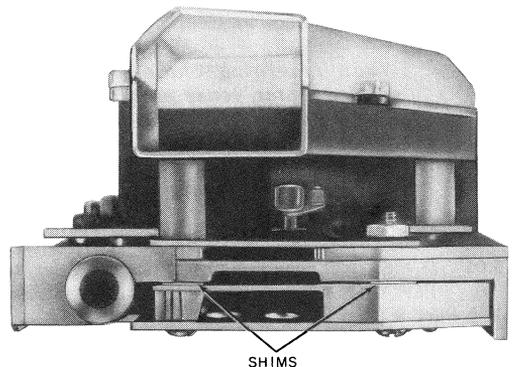

Fig. 40—20A Coin Chute (Manufactured Prior to May, 1978) With Dime Opening Shimmed
- (6) Replace 20A coin chute if dime is caught at exist of lower portion of chute (manufactured prior to May, 1978) and chute does not have shims to increase dime exit opening as shown in Fig. 40.